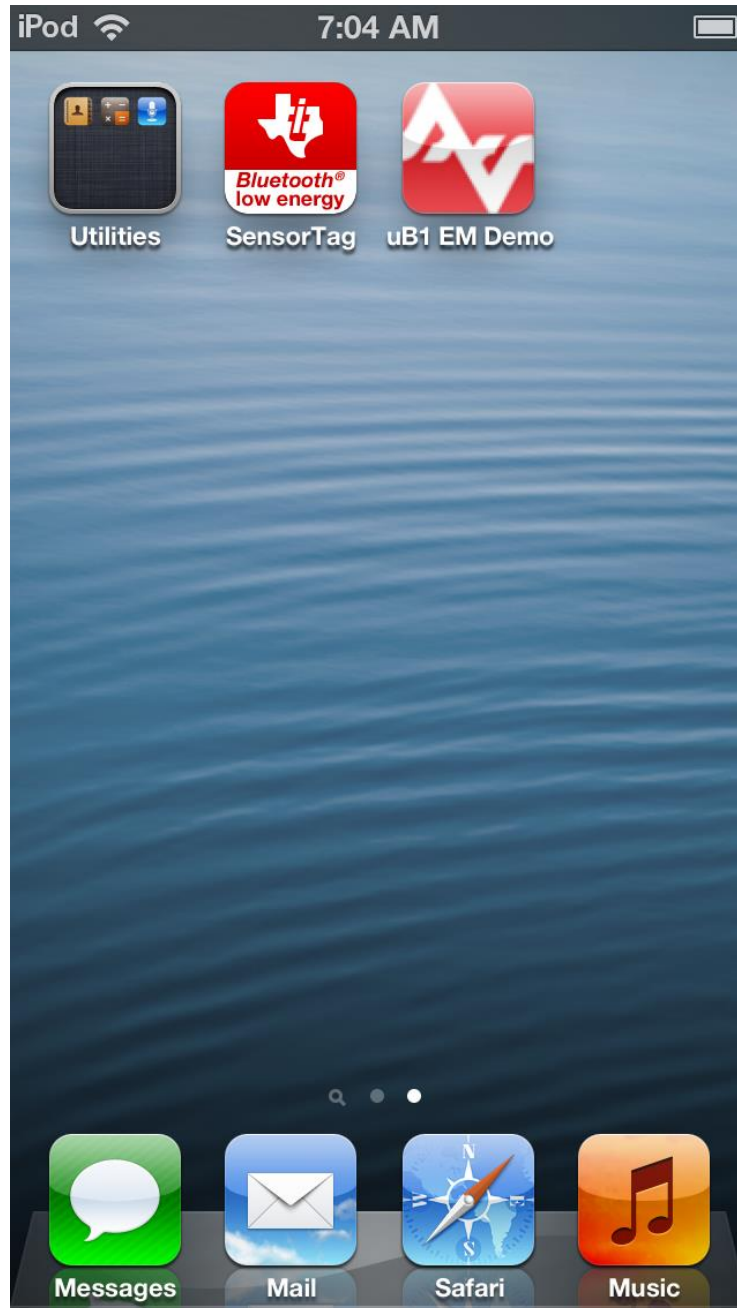

Figure 9 Sample LSR iPhone Application
- Bluetooth® 4.0 enabled iOS devices such as iPhone 4s or later, iPod Touch with LSR application running (Figure 9)
- Start the LSR iOS application (Figure 9).